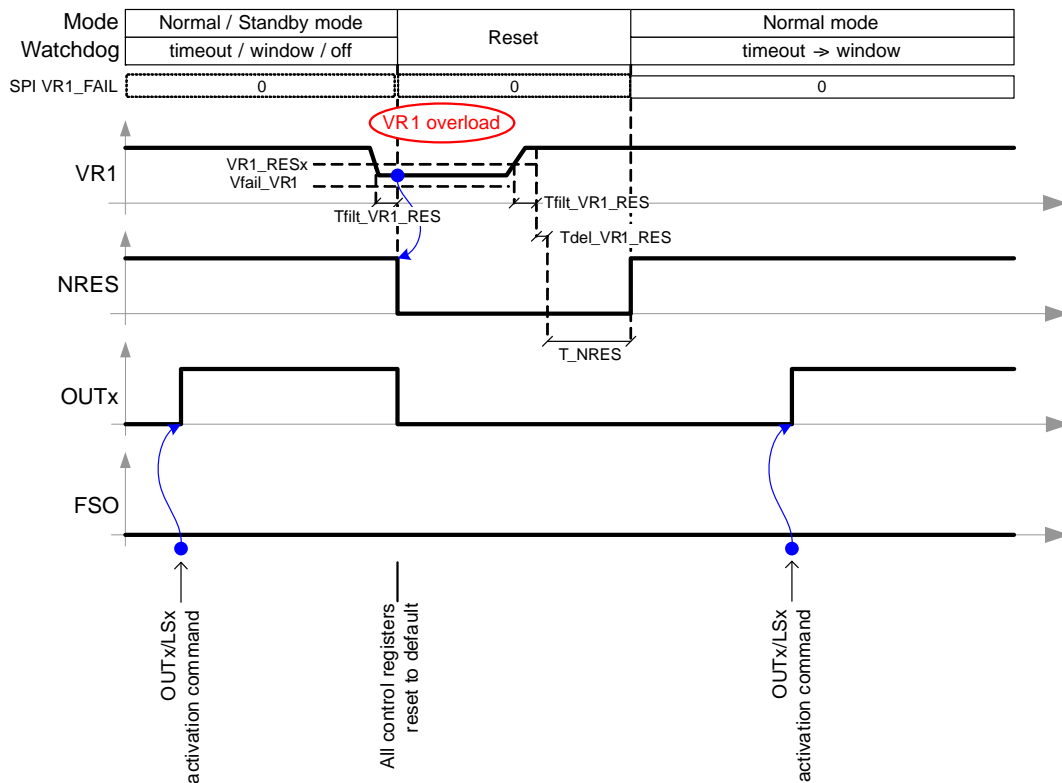

Figure 11. VR1 Monitoring – VR1 Undervoltage
- VR1 Reset Comparator – the VR1 regulator output is compared with a reset level *VR1_RES* (programmable to typ. 74%, 79%, 87% and 91% of the nominal VR1 voltage). If the VR1 level drops below this level for longer than *Tfilt_VR1_RES* (typ. 16 μ s), a reset towards the MCU is generated through the NRES pin and all outputs (OUT1–3, LS1/2) are switched off and all the control registers are set to their defaults, except “FSO_DIS” bit setting (see Figure 11).